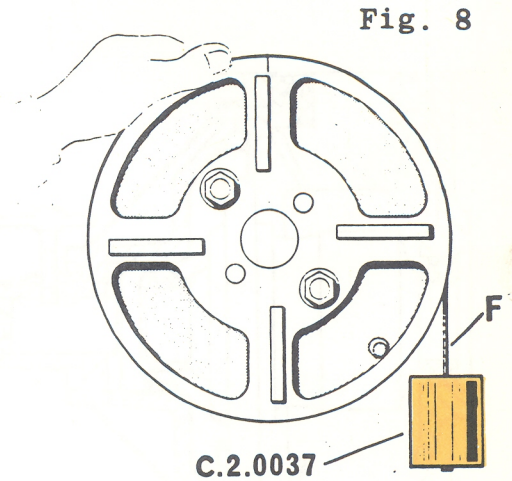

Fig. 8
- 8 Check whether the torque to turn the bearings falls within the limits specified in the Shop Manual. To this end, proceed as shown at the fig. 8 by applying the appropriate weight C.2.0037 to the end of the cable.